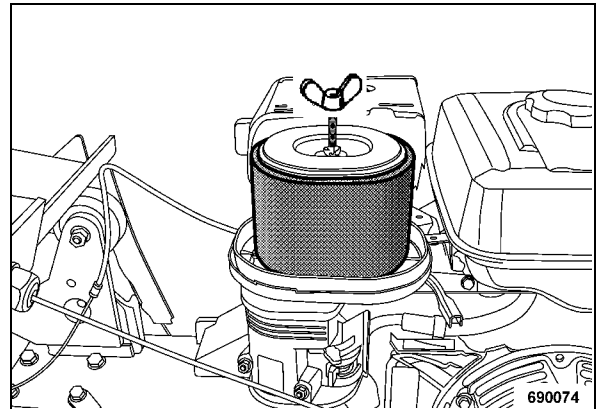

Fig. 69
- Unscrew the wing nut and pull the air filter cartridge out (Fig. 69).